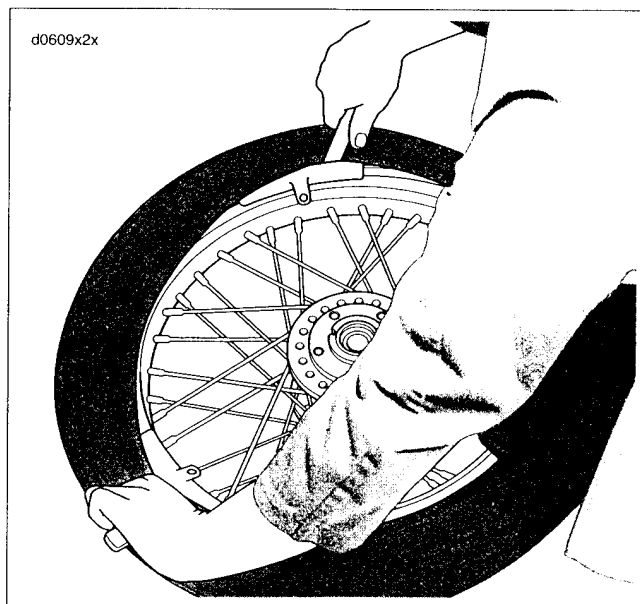

Figure 2-58. Starting Second Bead on Rim
4. See Figure 2-58. Starting 180 degrees from the valve stem, start the second bead onto the rim. Work the bead onto the rim with tire tools, working toward valve in both directions. Remove the valve core from the rim hole before prying the remaining bead over the rim flange.